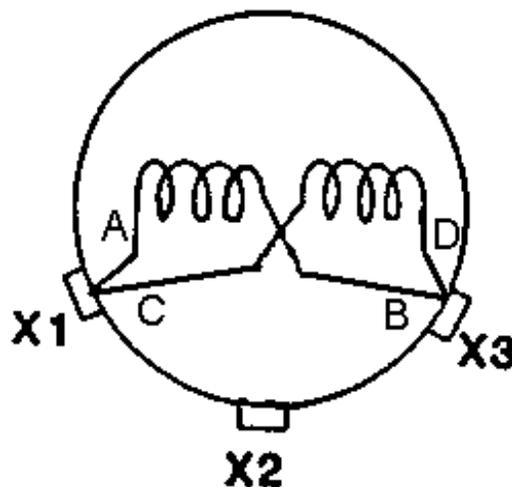

Figure 2, Parallel Connection
- 2.2. For a parallel connection, see Figure 2.